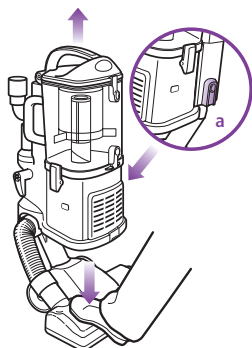

Fig. 7
NOTE: To change floor nozzles press the red release button (a) on the side of the detachable canister, gently hold the nozzle to the floor with your foot and pull the detachable canister up. (Fig. 7)
- 1 Separate the detachable canister from the floor nozzle. (See page 8, Fig. 7.)